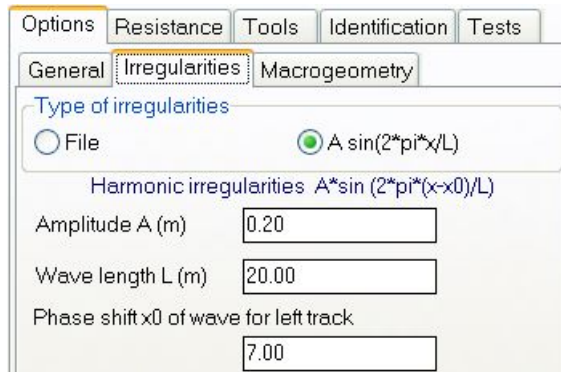
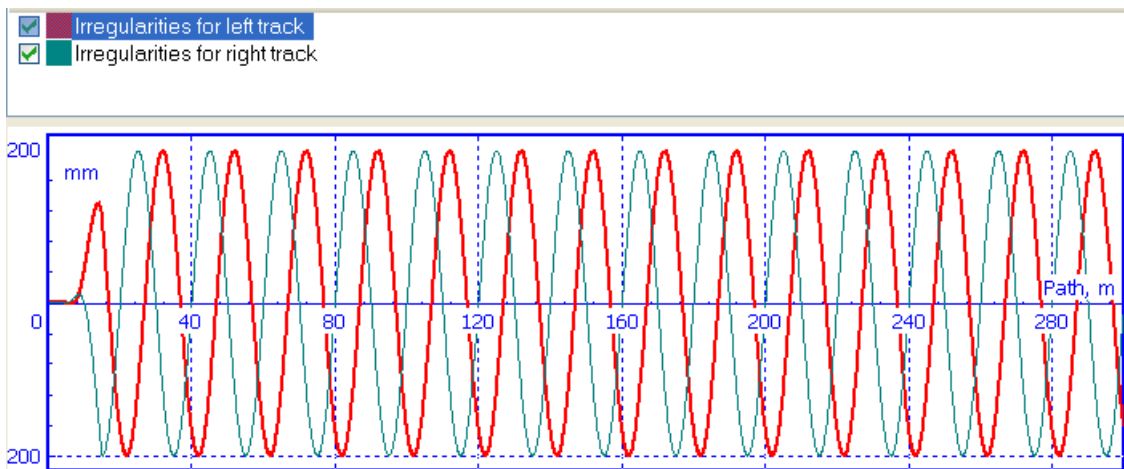

Fig. 58 Parameters of sinusoidal road profile
Рис. 59 Sinusoidal irregularities for the left (thick) and right tracks
2) Use the **Tracked vehicle** | **Options** | **Irregularities** tab to set parameters of sinusoidal irregularities, Fig. 58. By $x_0=0$, the irregularities for the left and right tracks are equal, by $x_0>0$ the left road curve passes ahead of the right one. Use the button to visualize the curves, Fig. 59.